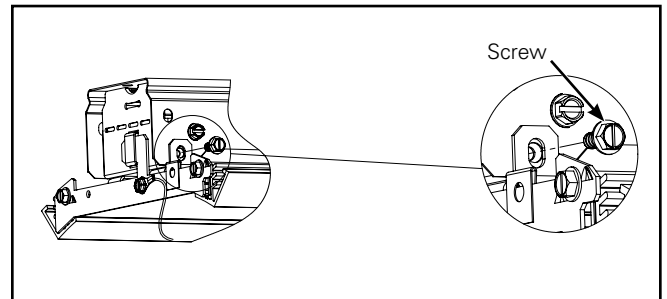

Figure 11.
4. Secure the waveguide assembly to channel assembly with screws provided, (Figure 11.) (One side of the fixture only) (Use a long bit or right angle tool).